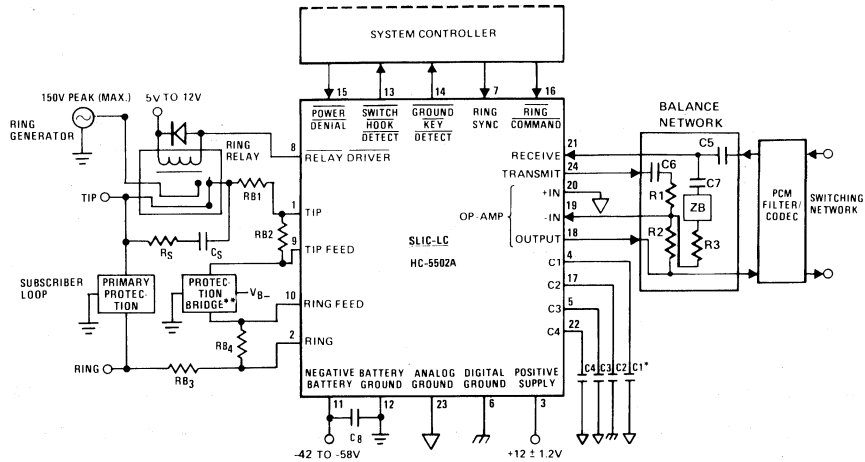
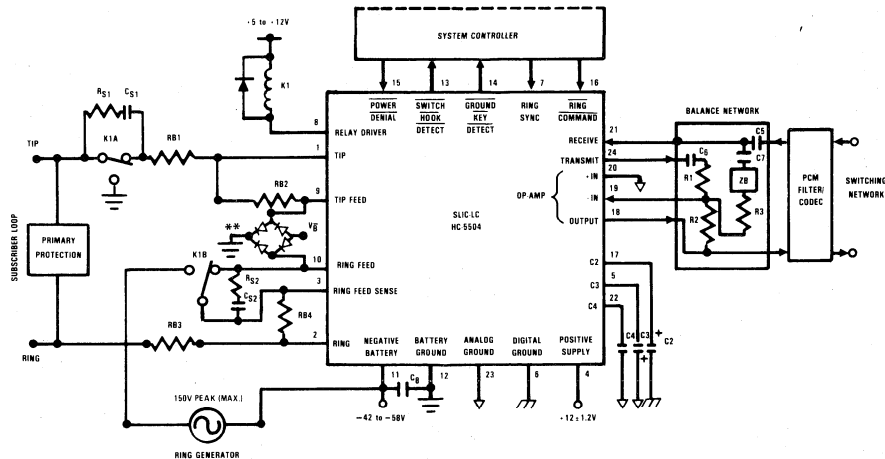

Figure 1. Typical Line Circuit Application with the HC-5502A Monolithic SLIC.
Figure 2. Typical Line Circuit Application with the HC-5504 Monolithic SLIC.
This application note describes the HC-5502A and HC-5504 Subscriber Line Interface Circuits (SLICs). These are monolithic low current (LC) SLICs for use in analog or digital PABX or Central Office (CO) applications. They are fabricated with 80 volt Di-electric Isolation technology. Both have enhanced surge voltage capability, and require four external resistors as shown in the application circuits (Fig. 1 & 2). The SLIC-LC incorporates many of the BORSHT functions on a single IC chip, including battery feed with power denial control, loop current limiting, overvoltage protection (with some external devices), ringing relay control, line supervision with off-hook, ring trip and ground key detection and 2/4 wire conversion. In addition, an uncommitted op amp is included in the SLIC-LC either for external connection of a balance network or for any other application.
Shown in Fig. 1 is a typical line circuit configuration using the HC-5502A SLIC-LC, and Fig. 2 shows a typical line circuit configuration using the HC-5504 SLIC-LC.
Secondly, notice the difference in ring configurations in the respective applications circuits (Fig. 1 & 2). The HC-5502 ring generator is referenced to GND and is injected on the tip side, while the HC-5504 ring generator is referenced to V_{Bat} and is injected on the ring side. The HC-5504 may also be configured for ground referenced ringing or balanced ringing. (See applications note #549 for detailed explanation.)